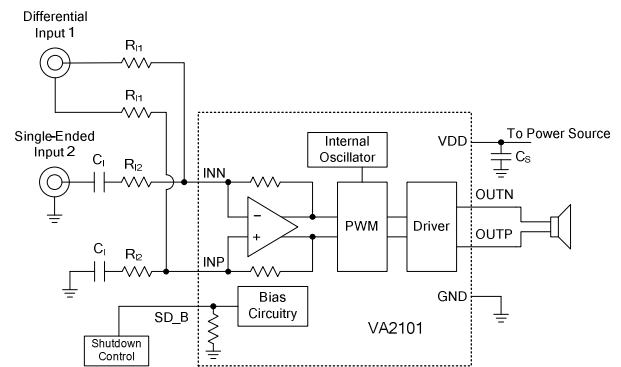

Figure 3. Dual Differential Input Configuration
It is easily to handle multiple audio signal sources with the VA2101. Figure 3 shows a dual differential input configuration. The gain for each input source can be set independently according to Equation (3) and (4).